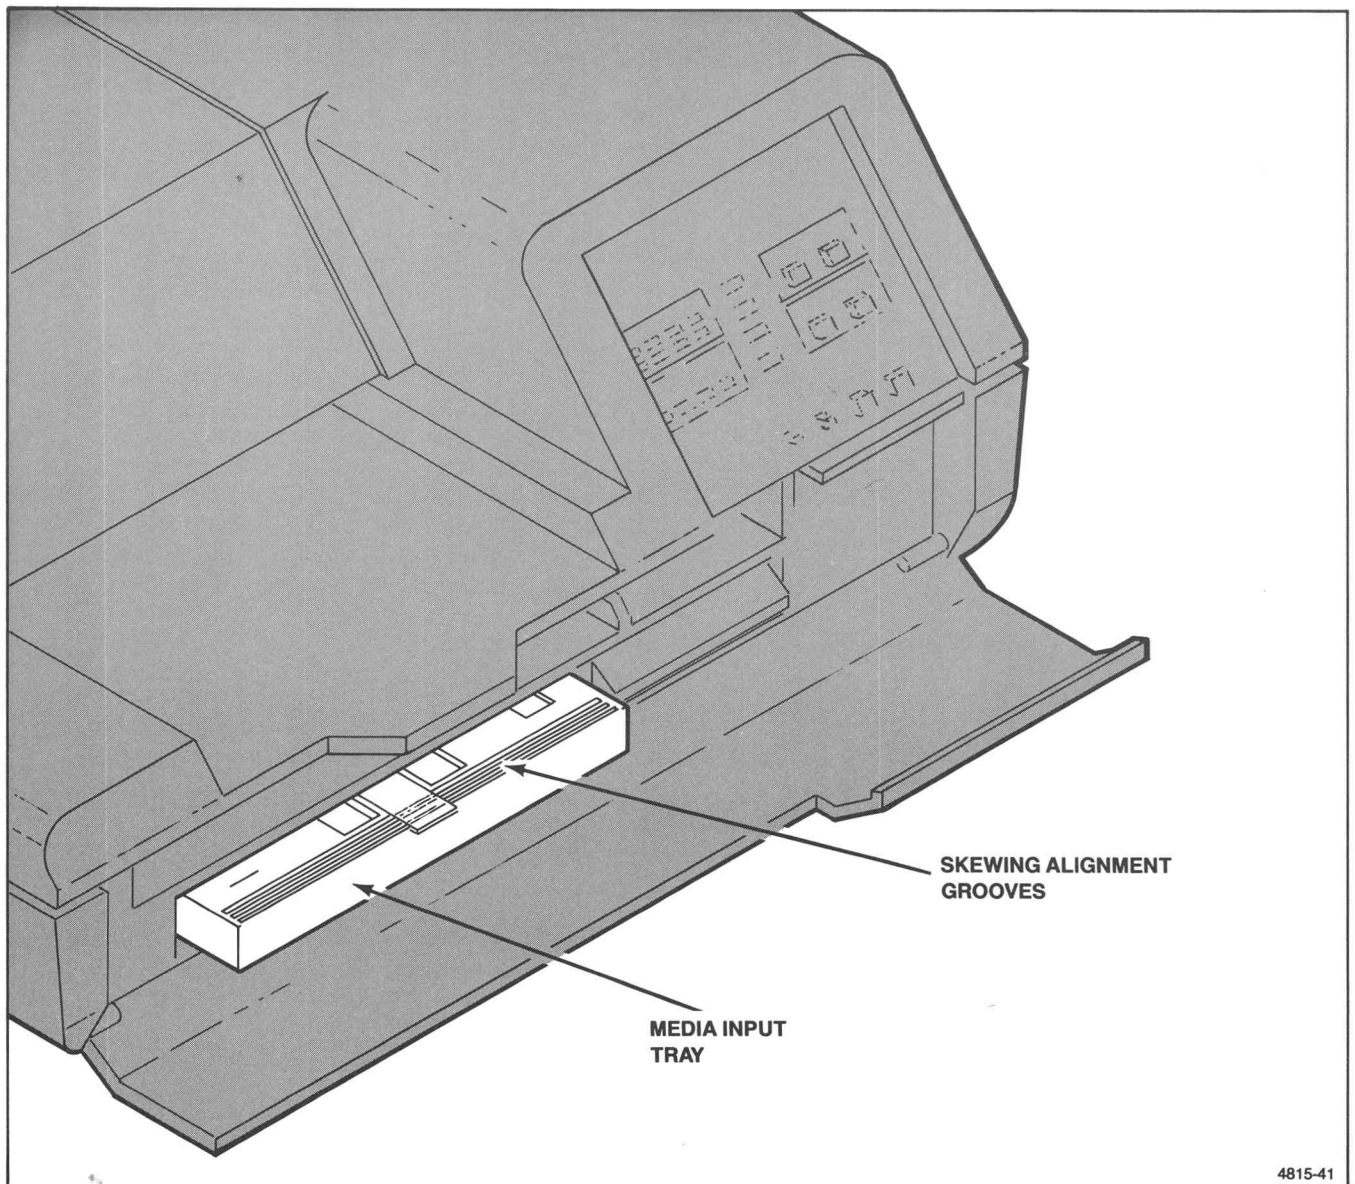

Figure 5-5b. Media Tray Alignment.
- d. **If the gap is uneven**, check the media tray alignment. See Figure 5-5b.